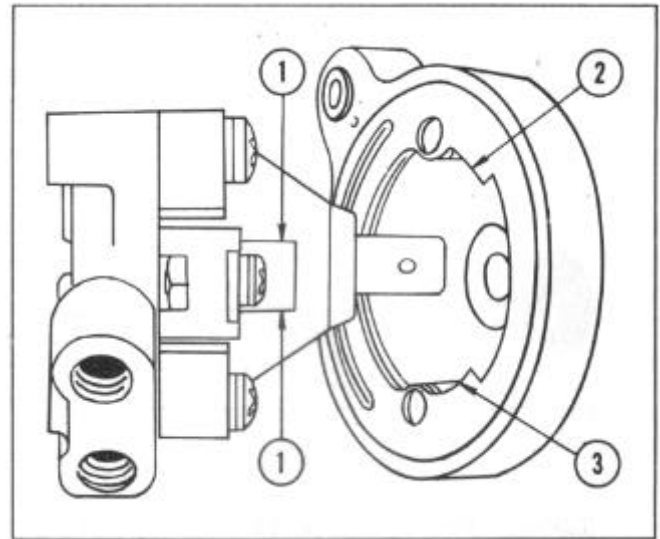

FIGURE 147
**NOTE:** The Phillips head screws attaching the valve and switch assembly to the support bracket are best removed with an offset Phillips head screw driver. The moulded plastic cover is held in place by four attaching screws and is sealed from leakage by a synthetic rubber gasket. A second rubber gasket installed between the plastic valve and inner cover, seals the valve operating shaft against leakage. The switch assembly is held to the operating valve shaft by a Phillips screw, Figure 147, shows the top control valve with cover removed. Operating the top control rod moves the cover until contact is made between 1 and either 2 or 3, completing the circuit to the pump motor.